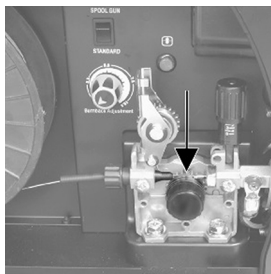

Figure 14.
6. Feed the wire through the drive roller and into the wire feed mechanism's outlet guide tube (Fig. 14). Note the pressure roller may be smooth or have teeth depending on the model.